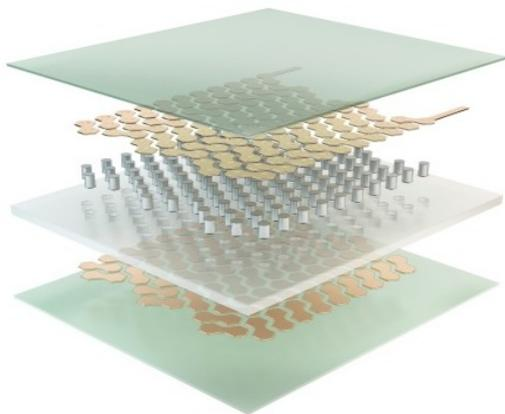

Figure 5: Explosion view of a standard gSKIN® sensor.
6. Calculate the energy released while the temperature was in that temperature range (see Figure 5). For data analysis, proceed as explained in appendix 1.